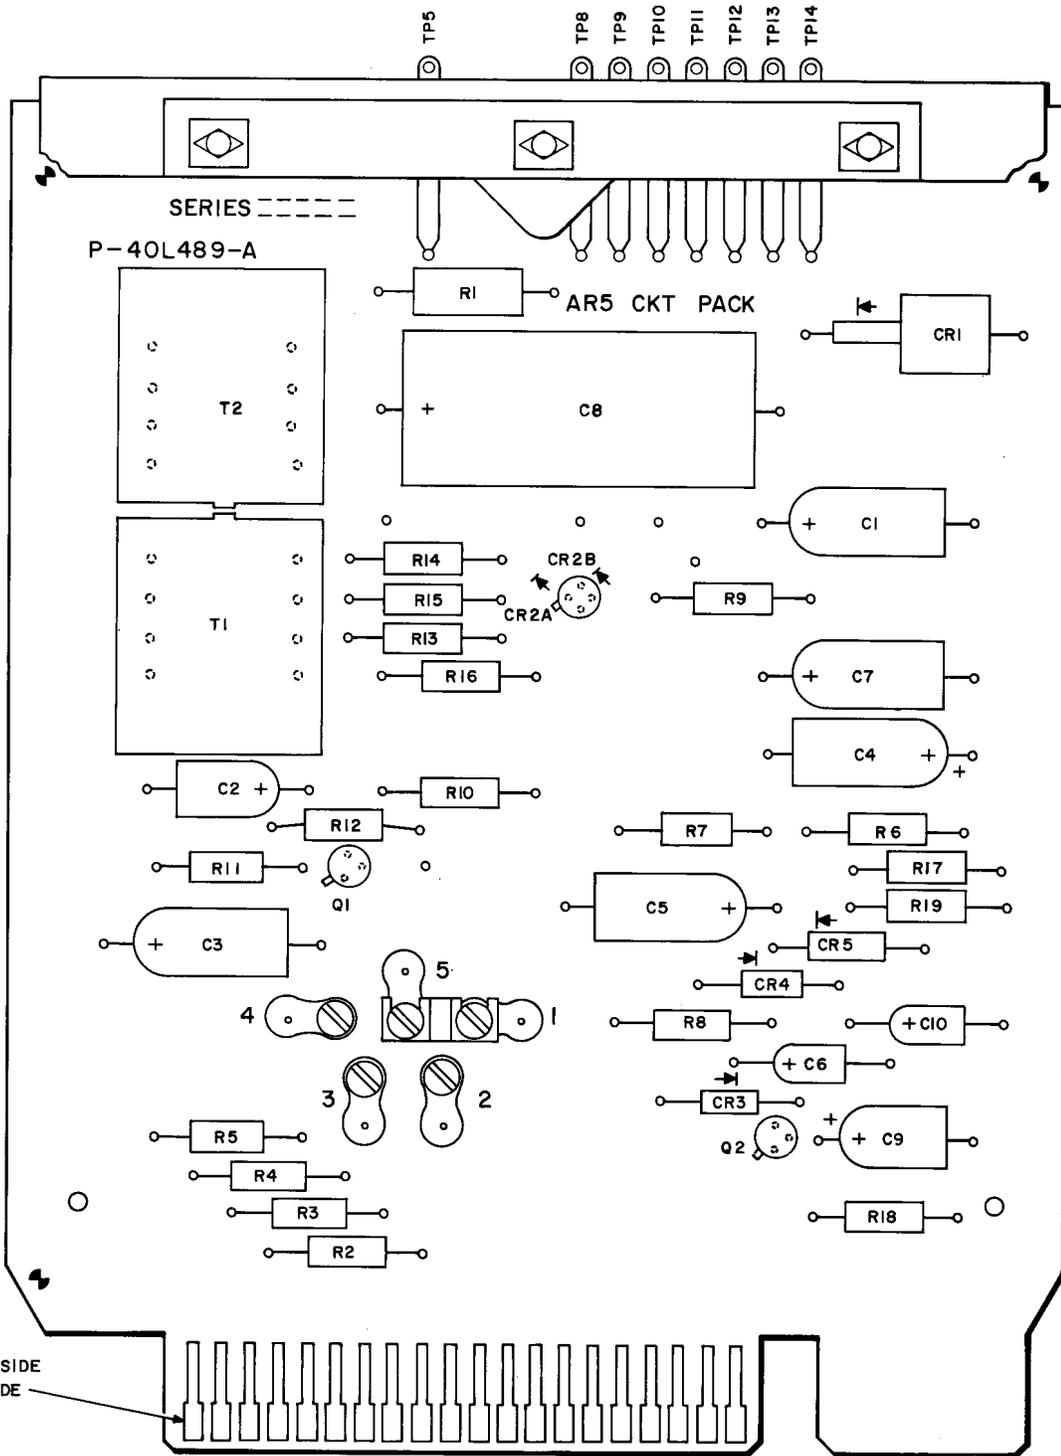

Fig. 5—Circuit Pack AR5 (AGC-1) Board
**3.13** Remove the circuit pack retaining bar from the "F" nest. Use the extracting tool and carefully remove the AR5 circuit pack from location F01. The AR5 (AGC-1) board is illustrated in Fig. 5 and the attenuation provided by loss pads is provided in Table C. Condition the AGC-1 board as specified on the service order. After the circuit board is properly conditioned, carefully return it to the original location and remove the extracting tool.
**3.29** Remove the circuit pack retaining bar from the "F" nest. Use the extracting tool and carefully remove the AR5 circuit pack from location F01. The AR5 (AGC-1) board is illustrated in Fig. 5 and the attenuation provided by loss pads is provided in Table C. Condition the AGC-1 board as specified on the service order. After the circuit board is properly conditioned, carefully return it to the original location and remove the extracting tool.